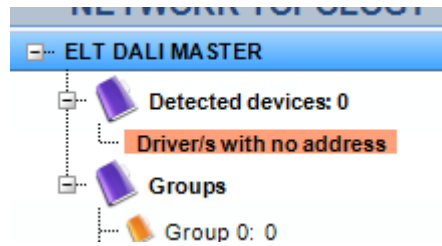

Fig. 78- One device or more with no allocated address.
- Those devices **with no address** will be grouped in a single sub-node under the “Detected devices” node (Fig. 78) with an indication saying that it has no address. If there is a driver with the “Driver/s with no address” indication it means there is at least one driver without address, but there could be more than one.